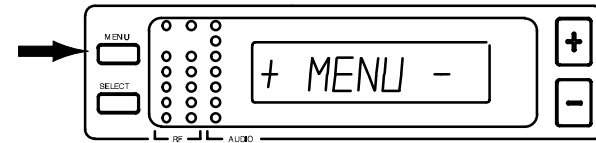

FIGURE 16
- Press the MENU button. The + MENU - display will appear, as shown in Figure 16.